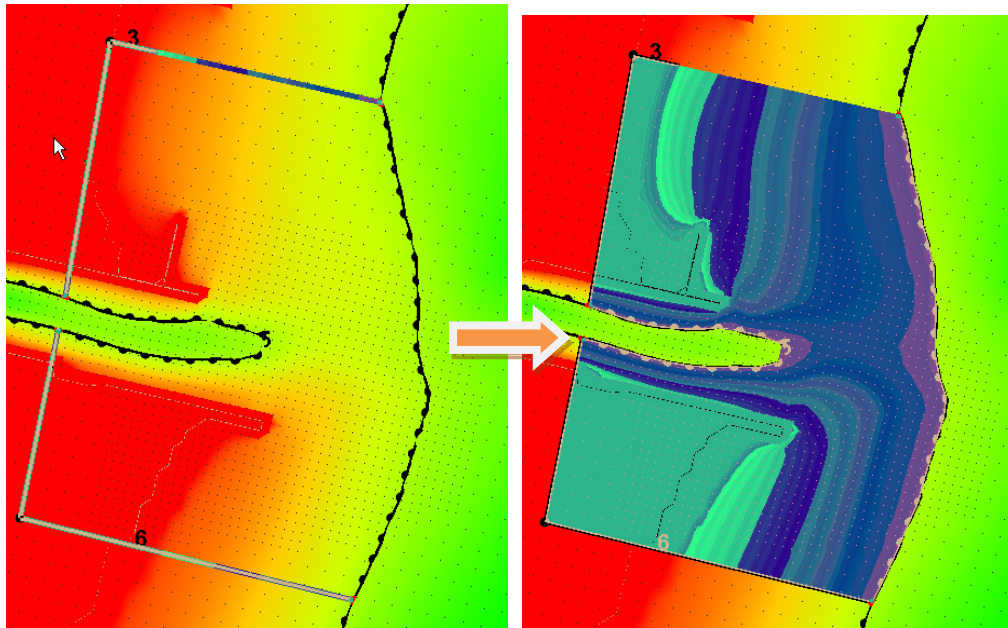

Figure 8.4.11. Left: Two arcs drawn to connect the 6m contour back to a common point to close off the polygon. Right: Highlighted polygon after created.
7. To calculate planform area, each contour in both maps must be closed off with arcs to create a polygon. Create a polygon in the closed arcs by selecting *Feature Objects|Build Polygons*. An example is shown in Figure 8.4.11. Note that the area of the selected polygon is given at the bottom of the screen in the units the solution file is given in, which is always metric for the CMS.
2. Create a polygon in the closed arcs by selecting *Feature Objects|Build Polygons*. An example is shown in Figure 8.4.11.